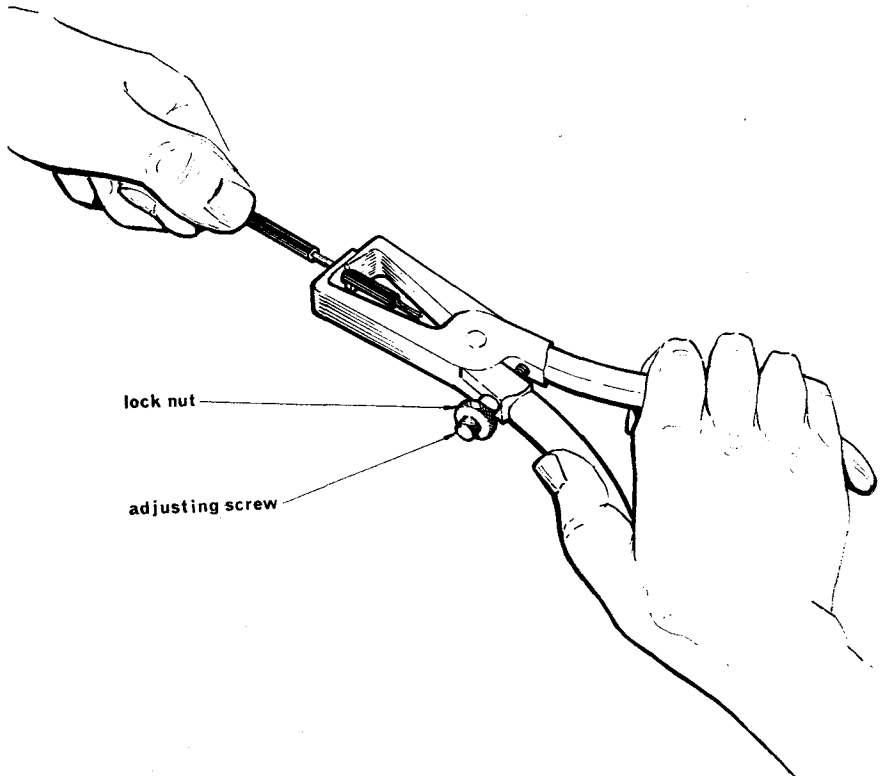

Fig. 6. Stripping pliers
10. **Stripping pliers.** The adjustable stripping plier shown in Fig. 6 is for general stripping of wires up to $\frac{5}{8}$ inch outside diameter of conductor. The adjustment screw is set so that the jaws will not close to a smaller size than the conductor and is then locked in position by the knurled locking nut. The pliers have a self-opening spring action and insulated handles. It is advisable to test the adjustment by stripping a spare piece of wire and checking that no damage is caused to the conductor.